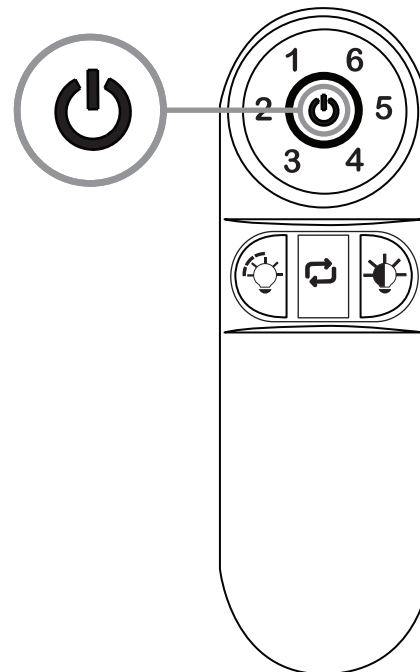

Figure 14
2. Raise and hold the LED light kit close to the mounting plate and proceed to do the wire connections. Make the 2-pin wire connections: (Fig. 14)